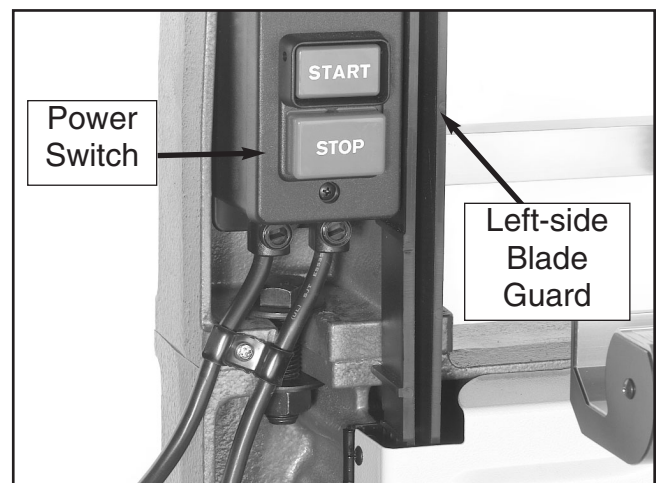

Figure 2. Power switch and left side blade guard.
3. Remove the left-side blade guard (**Figure 2**).
4. Remove the power switch assembly (**Figure 2**). **DO NOT** disconnect the wiring and wait until **Step 12** to remove the guide post assembly.